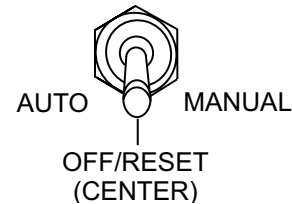

Figure 84. Auto Off/Reset Manual Switch (Off/Reset Position)
8. Place the Auto Start/Stop Switch (Figure 84), to the "Off /Reset" position.